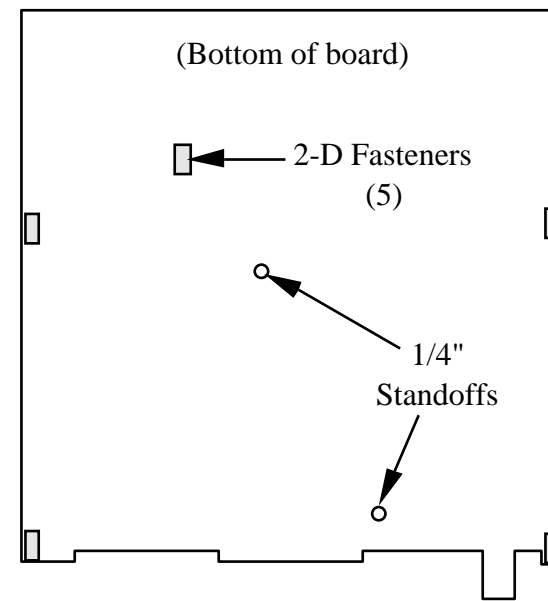

Figure 6-3
- Install 2-D fasteners at 5 locations on the bottom of the board as shown in Figure 6-3. Secure each fastener from the *top* side of the board using two chassis screws (black, 3/16" [4.7 mm]) and two #4 lock washers. The washers go on the top side of the board.
Install two 3/16" (4.8 mm) diameter by 1/4" (6.4 mm) long round standoffs on the bottom of the board at the locations identified in Figure 6-3. Secure these standoffs from the top side with chassis screws and #4 lock washers. *Do not put lock washers between the bottom of the board and the standoffs.*